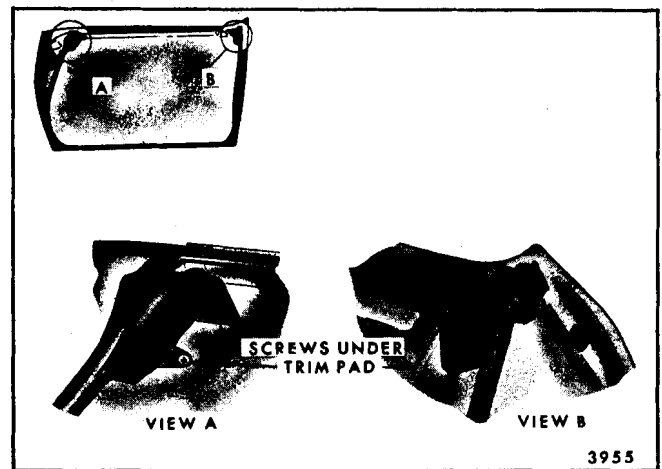

Fig. 6-3-Door Weatherstrip - Hardtop Styles
1. On all hardtop and convertible styles, remove door trim pad to gain access to weatherstrip fasteners hidden under trim assembly and remove fasteners (Fig. 6-3).